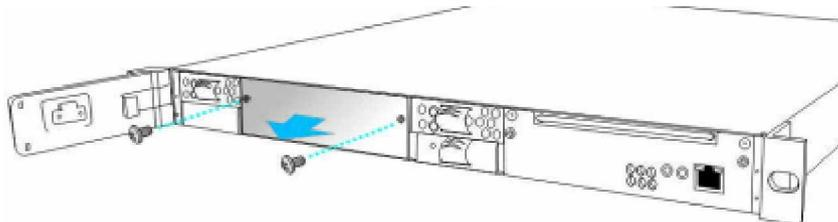

Figure D-3: Remove the Metal Plate
- Step 3. Remove the metal plate on the left-hand side controller slot.** Remove the retention and remove the metal sheet from the controller slot. (See **Figure D-3**)